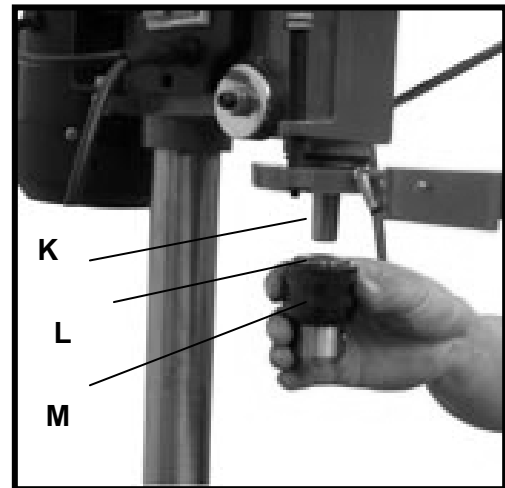

Fig. 9
6. **IMPORTANT:** Make certain the spindle taper (K) Fig. 9, and tapered hole in the chuck (L) are clean and free of any grease, lacquer or rust preventive coatings. Carefully follow the manufacturer's safety rules concerning its use.